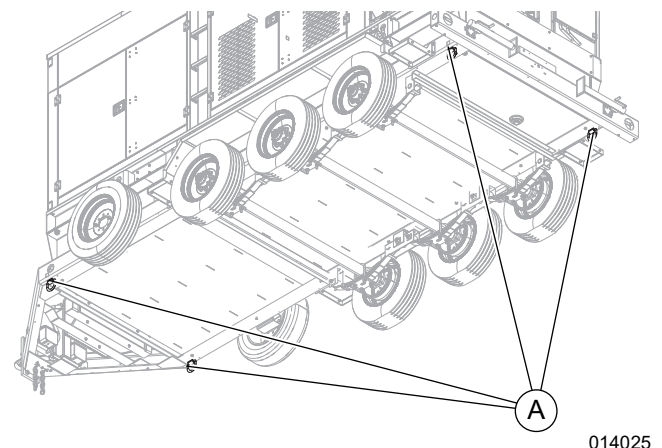

Figure 3-23. Tie-Down Points
See Figure 3-23. Use the tie-down points (A) as shown.